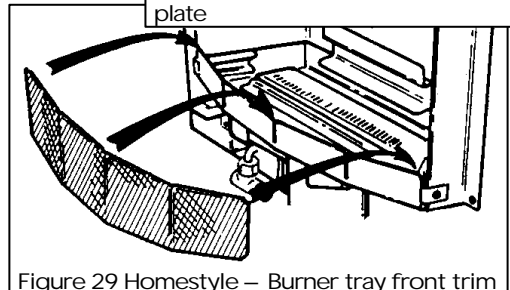

Figure 29 Homestyle - Burner tray front trim
9.2.4 Clip the burner tray front trim over the burner unit front. Make sure that the trim is secured over all four of the burner tray front flanges. See figure 29.